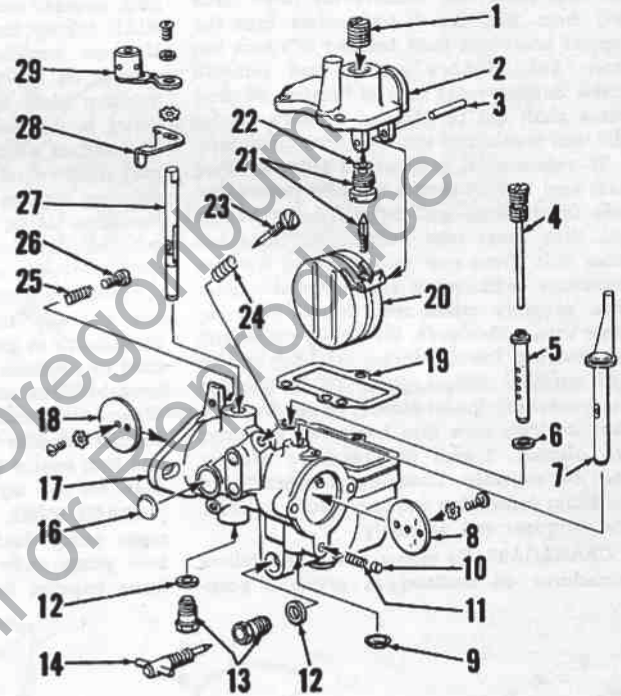
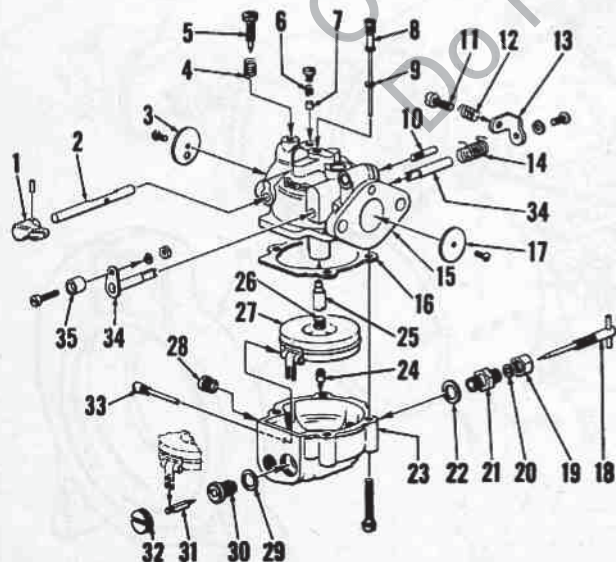

Fig. HL41—Exploded view of typical Series MT Tillotson float type carburetor as used on some Homelite pump and generator models.
Fig. HL40—Exploded view of typical Tillotson Series MD carburetor as used on some Homelite pump models.
CARBURETORS. Tillotson Series MD and MT float type carburetors and Homelite carburetors have been used; refer to appropriate exploded view in Fig. HL40 or Fig. HL41, or to the cross-sectional view in Fig. HL43.
Normal idle needle (5—Fig. HL40) setting for Tillotson MD carburetors is 1/4 turn open; main (high speed) needle (18) setting is 1 1/4-1 1/2 turns open. Float setting with fuel bowl assembly held in upside down position should be 3/8-inch from the lowest point of float at free end, to rim of fuel bowl.
Normal idle needles (23—Fig. HL41) setting for Tillotson MT carburetors is 3/4-turn open; main (high speed) needle (14) setting is 1-turn open. Float setting, with the float bowl cover assembly inverted, should be 1 1/2-inch as measured from the top of the float to the gasket surface of the float bowl cover.
Fig. HL42—Exploded view of fuel system on models using Tillotson float type carburetor. Exploded view of carburetor is shown in Fig. HL41. Actuating primer bulb (14) will pump fuel into carburetor float bowl.